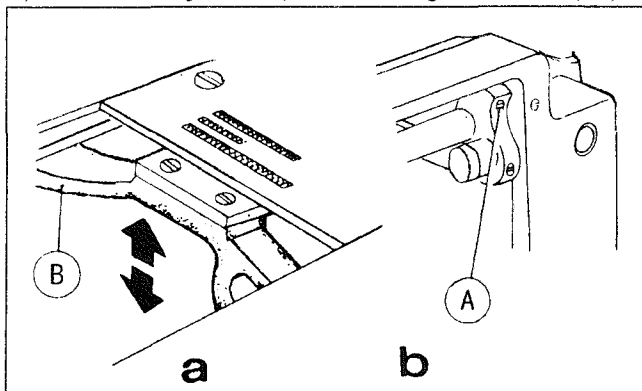

Fig. 22
18. ADJUST THE HEIGHT OF FEED DOG (Fig.22,23)
- 2) Loosen Screw (A) of feed lifting rock shaft crank (See Fig.22,b)
- 3) Move Feed Bar (B) in the direction shown by the arrow in Fig. 22 (a) to adjust the height of the feed dog. The standard height of feed dog is that the top of feed dog is 0.8mm above Throat Plate Surface (B).
- 4) After the adjustment, be sure to tighten Screw (A).